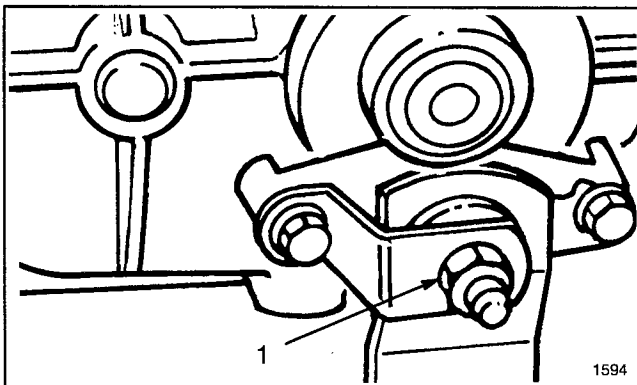

Figure 24
3. Tighten locknut approximately 1/4 turn clockwise (Fig. 24).